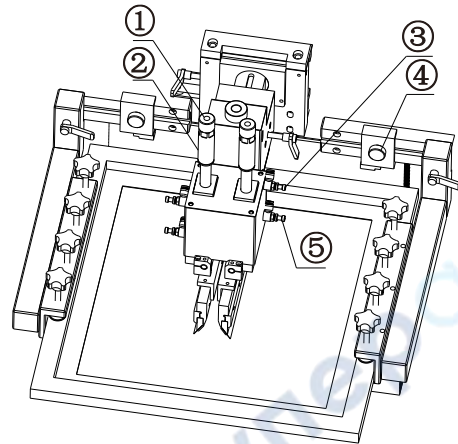

Fig. 9
- (1) Counterclockwise rotation throttle valve ③ the scraper rise speed is accelerated, clockwise rotation throttle valve ③ the scraper rise speed slows down as shown in Fig. 9.
- (2) Counterclockwise rotation throttle valve ⑤ then the scraper pressure speed is accelerated, clockwise rotation throttle valve ⑤ scraper pressure slow down as shown in Fig. 9.
- (3) The left and right scraper debugging method is the same and this type of push.
- (1) Rotate the lock nut ④ counterclockwise, and move the limit sensor to the far right as shown in Fig. 9.
- (2) Enter the touch screen manual debug mode point-moving scraper to move right to observe the left scraper across the steel mesh printing area bit and then move to the right 20mm stop.
- (3) Move the limit sensor to the left until the sensor indicator lights up after touching the scraper head sensing sheet and the lock nut ④ and lock the position.
- (4) The position limit adjustment method is the same in both directions.
- (1) Hold the fixed adjustment stud ② in hand and loosen the lock nut ① as shown in Fig. 9.
- (2) The clockwise rotate adjustment stud ②, then the scraper pressure is reduced, counterclockwise rotate adjusting stud ②, the scraper pressure increases.
- (3) After adjustment, hold the fixed adjustment stud ②, and then lock the nut ①.
- (4) The left and right scraper adjustment method is the same.